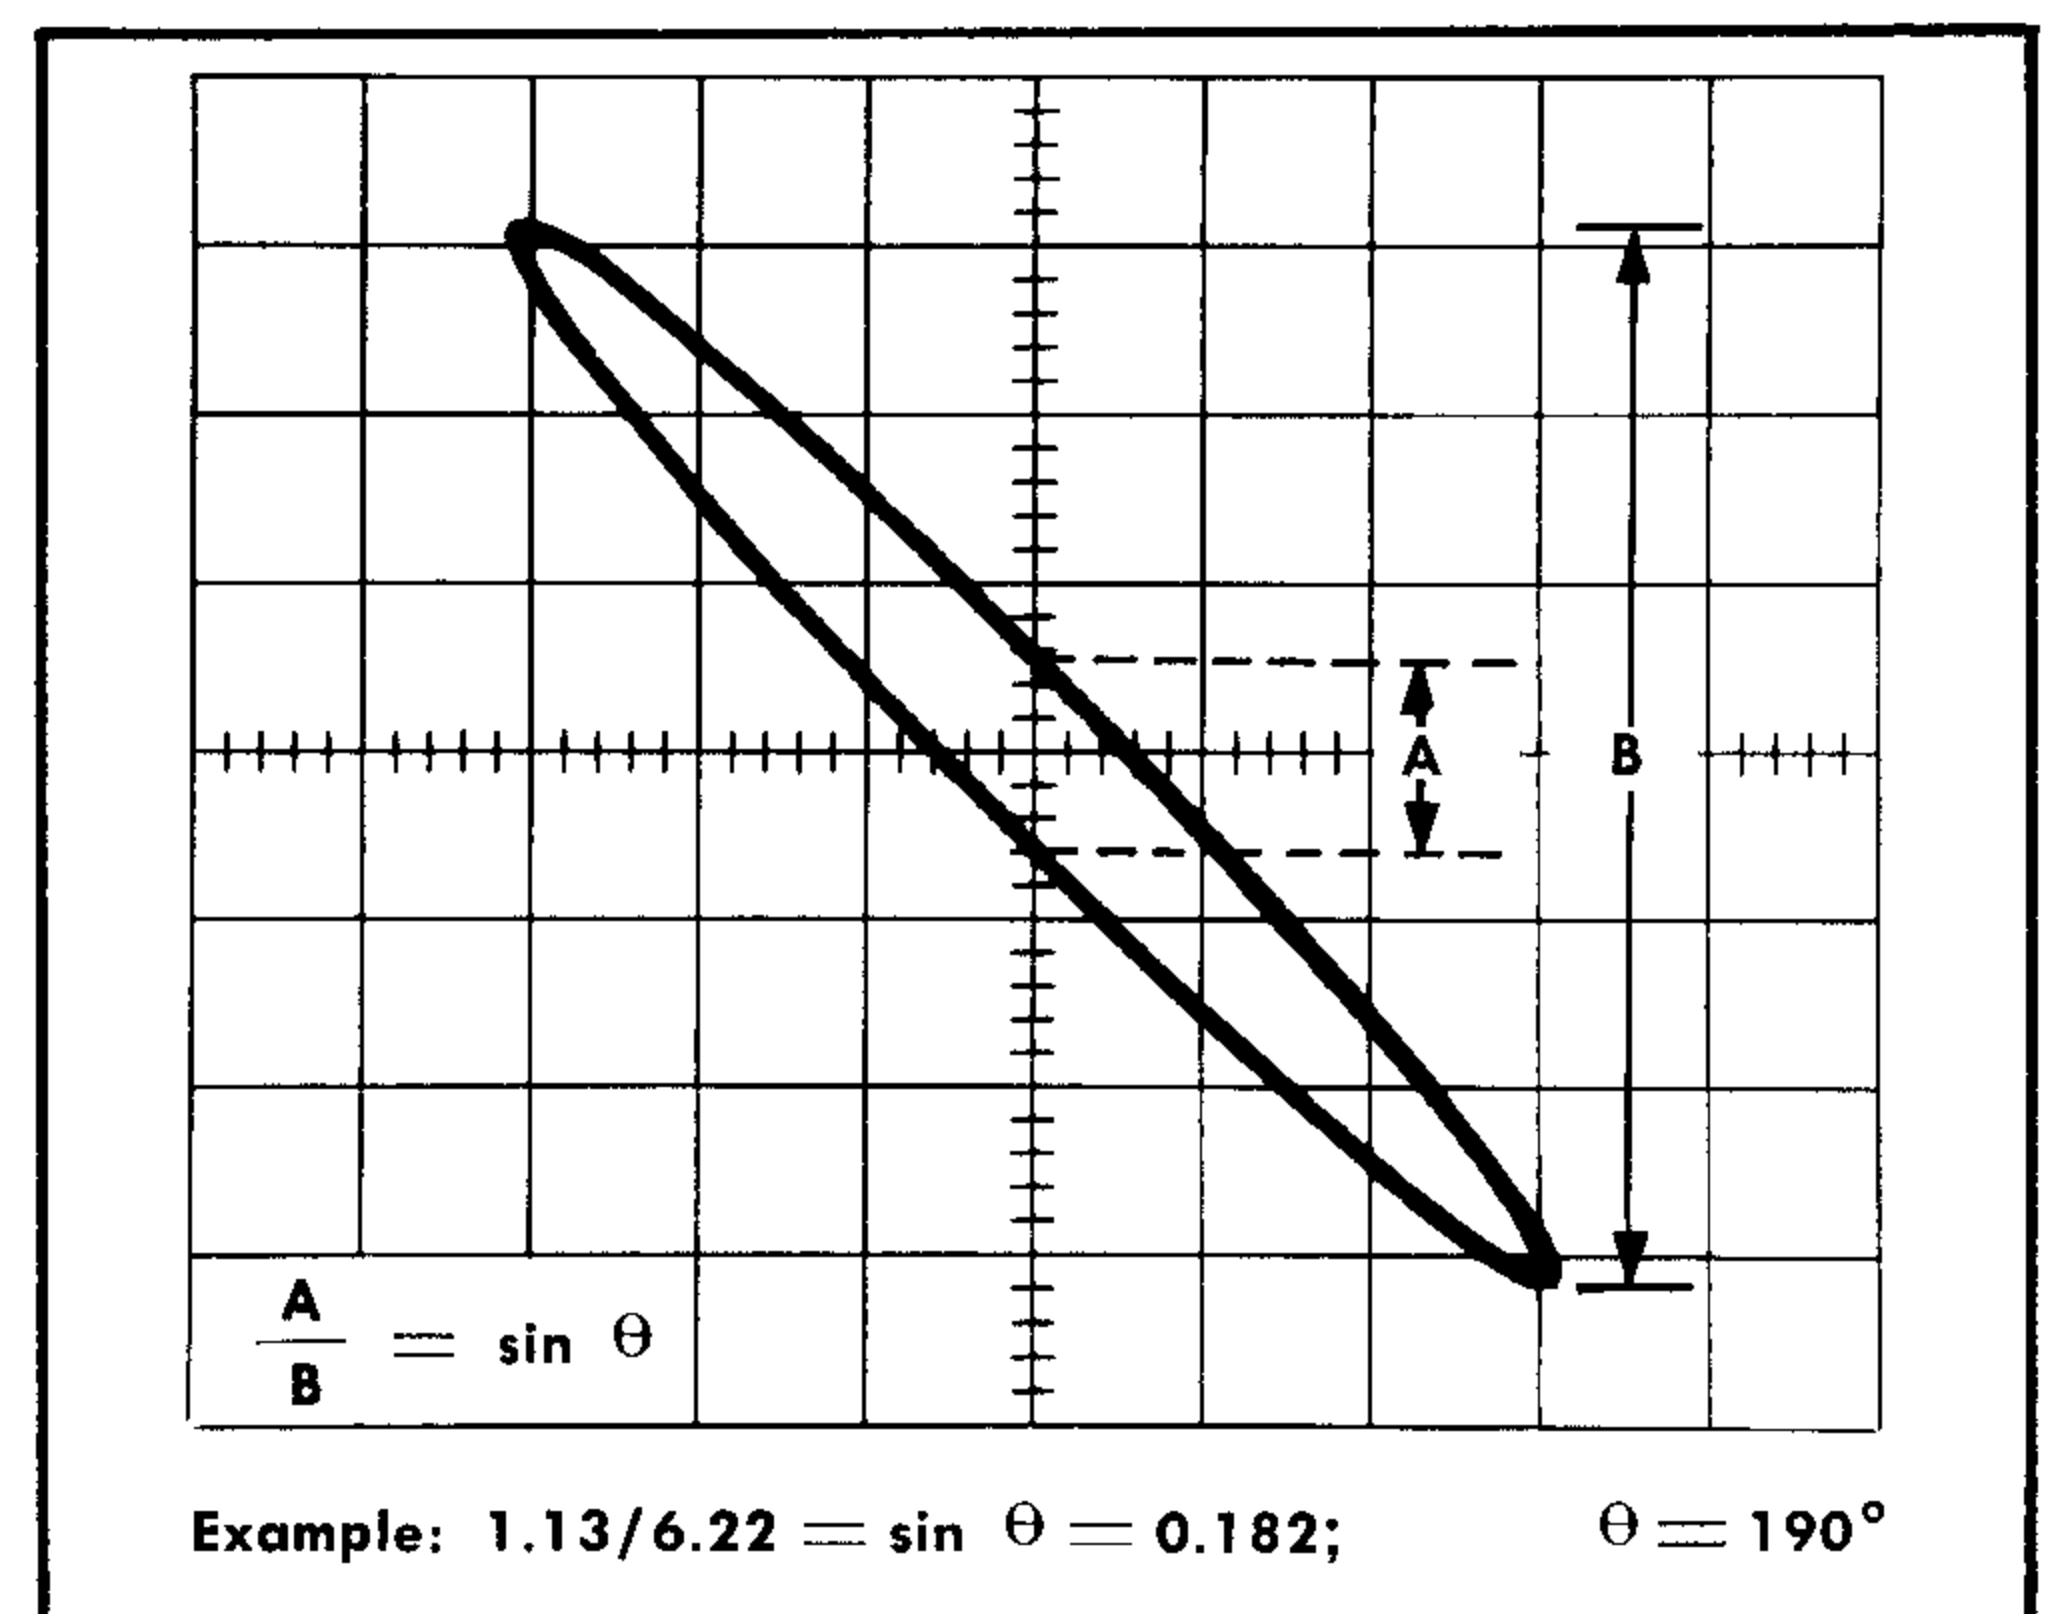

Fig. 2-17. X-Y method of calculating phase difference (θ) between two sinewaves.
7. Measure the distance 'A' and 'B' on the display as shown in Fig. 2-17. 'A' divided by 'B' equals the sine of the phase angle between the two sine waves.